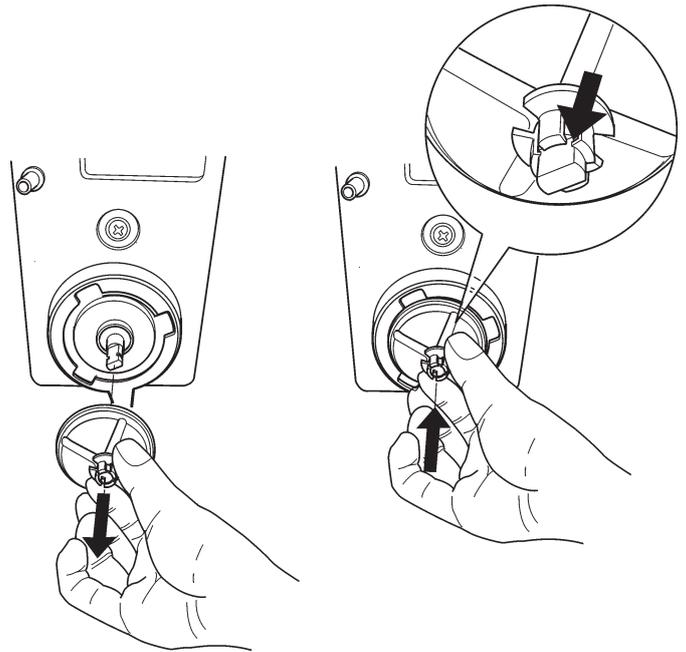

Fig. 11
- to disassemble the impellers, pull slightly to release them (fig. 11);